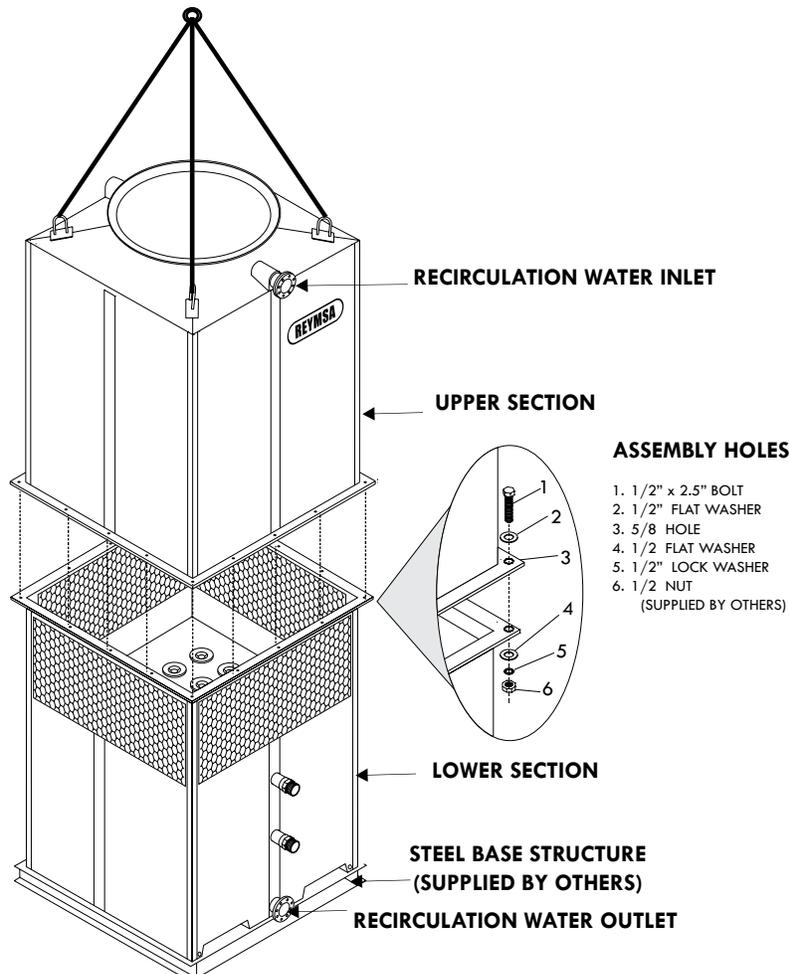

Figure A-7: Upper and lower parts installation
1. Assemble the upper section with the lower section, the upper section comes assembled with u-bolts for lifting; then using a crane assemble both parts, use a guide pin to align bolt holes as the sections are being set (See figure A-7). Make sure that the recirculation water inlet, and the recirculation water outlet are on the same side of the tower when assembled.